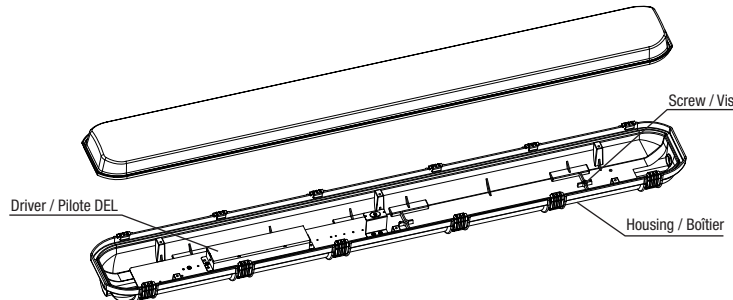

Fig 9
1. Remove the screw on the housing that is used to fix the tether Cable as shown in Fig. 9.
1. Retirez la vis du boîtier servant à fixer le câble d'attache, comme illustré à la figure 9.